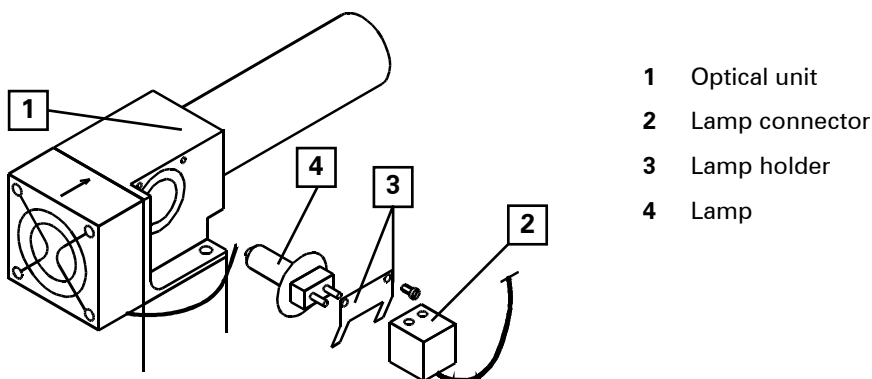

Fig. 5.4 Replacing the halogen lamp
1. Switch off the Fluoroskan Ascent FL/Fluoroskan Ascent and disconnect the mains power supply cable (Fig. 5.4:1). Remove the instrument cover according to the instructions in Section 4.6 Changing the measurement direction points 1 – 4. Locate the lamp (Fig. 5.5:4) on top of the optical unit (Fig. 5.5:1).